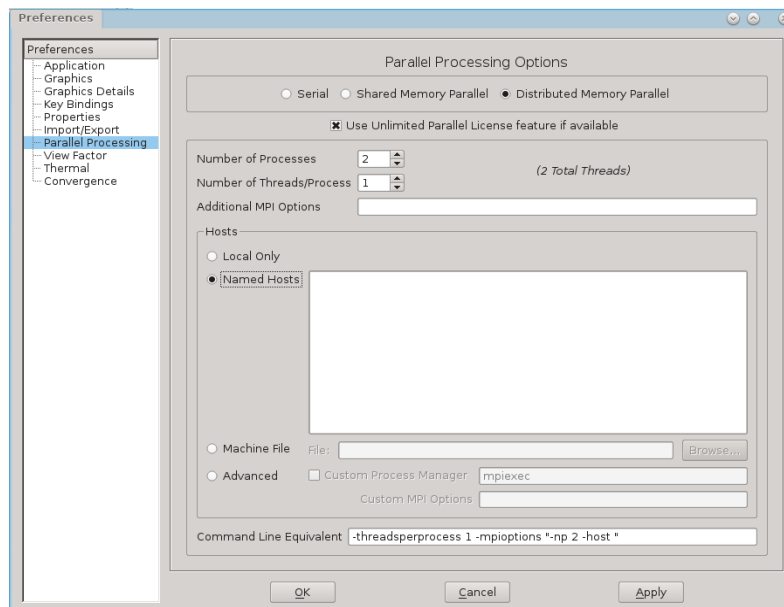

Figure 8: Parallel processing setting in TAItherm GUI v12.0.
- Edit → Preferences → Parallel Processing Figure 8.